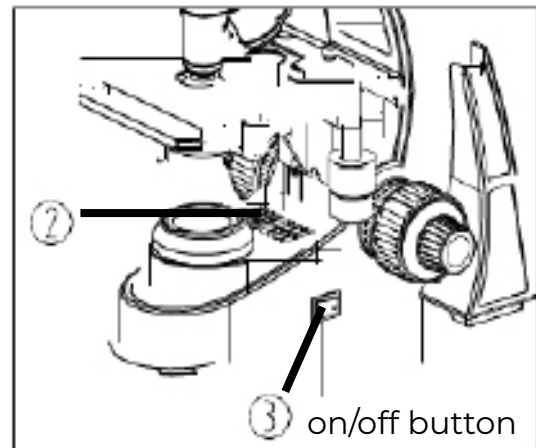

Fig. 2
4. When the microscope lamp is on, the surface of the field lens will be very hot. Make sure there is enough room for heat to dissipate around the condenser (2) (see Fig. 2).
5. For safety, make sure the power switch is in the "O" (OFF) position before replacing the bulb or fuse (See Fig. 2), and wait until both the bulb and bulb holder have cooled down.